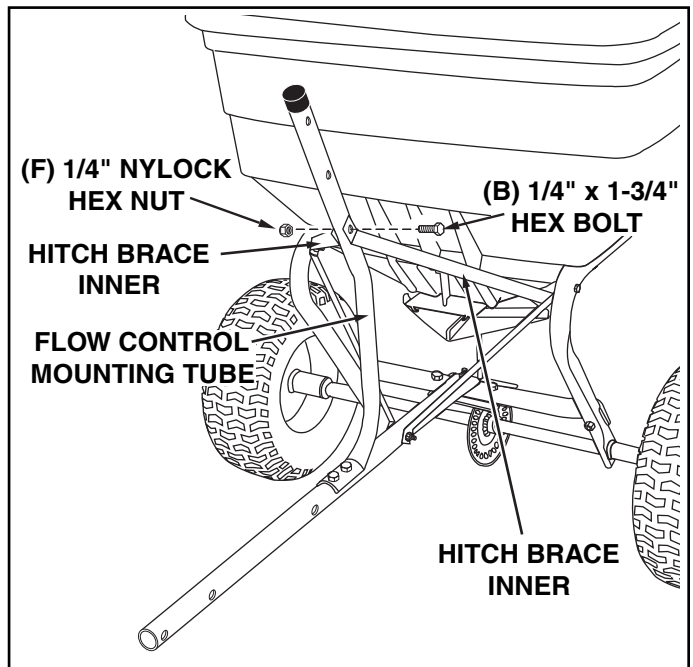

FIGURE 6
14. Assemble the two **INNER** hitch braces to the flow control mounting tube using a 1/4" x 1-3/4" hex bolt (B) and a 1/4" nylock hex nut (F). **DO NOT TIGHTEN YET.** See figure 6.